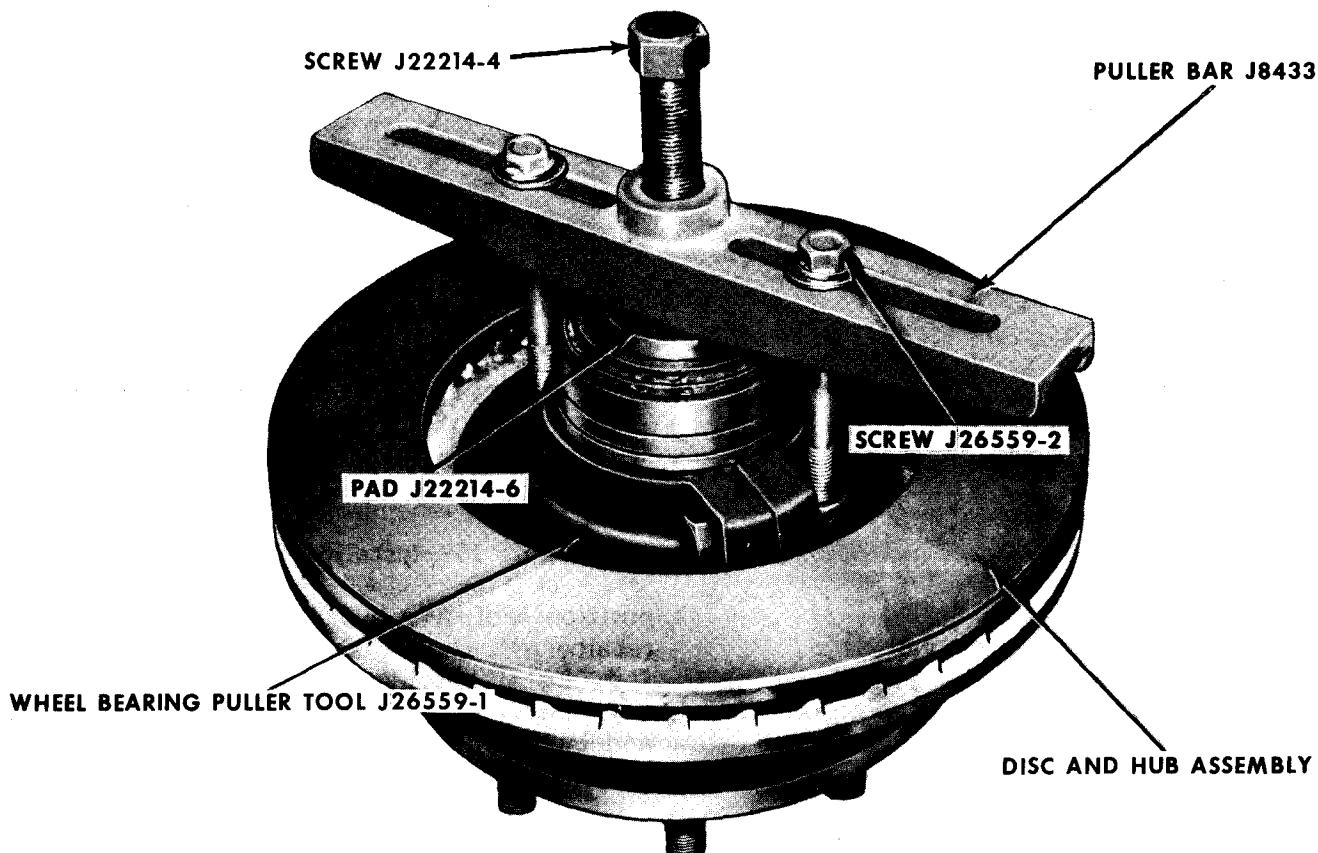

Figure 11—Wheel Bearing Puller Tool J-26559
assembly (figure 11). This tool is to be used in conjunction with Puller Bar J-8433.
3. Position tool assembly as shown in figure 11.